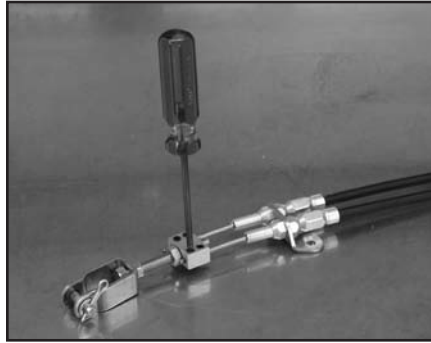
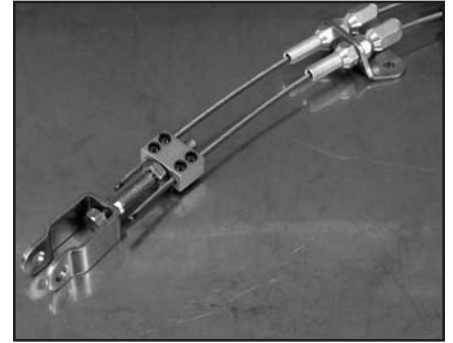

Figure 11
Figure 12
- Loosen all four setscrews on the top of the Cable Block assembly enough to allow the inner cable to slide through, Figure 11. Slide both inner cables through cable block and snug down setscrews, Figure 12.